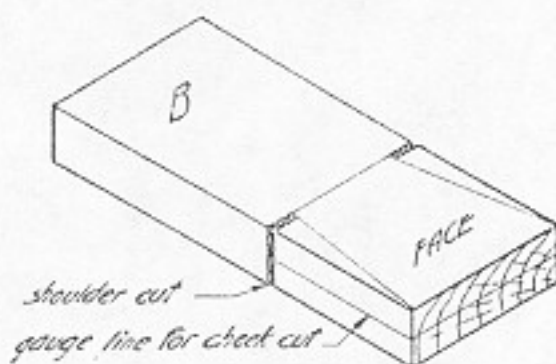

Fig. 204. Shoulder cut on dovetail-lap joint.
3. Piece B is sawed as an ordinary end-lap joint (Art. 76, steps 5 to 7), but the shoulder cut is continued around both edges (Fig. 204). The cheek cut is finished, and then the angles of the dovetail are sawed.